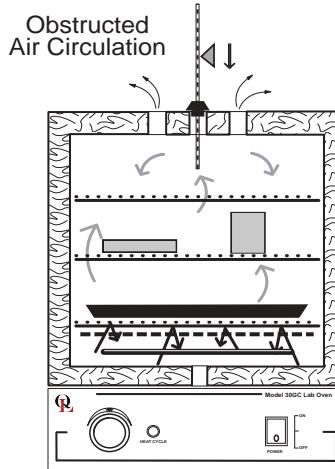

FIG. 5
- Avoid large solid trays or foil on lower shelves, this can drastically limit heat to shelves and articles placed above. (FIG. 5)